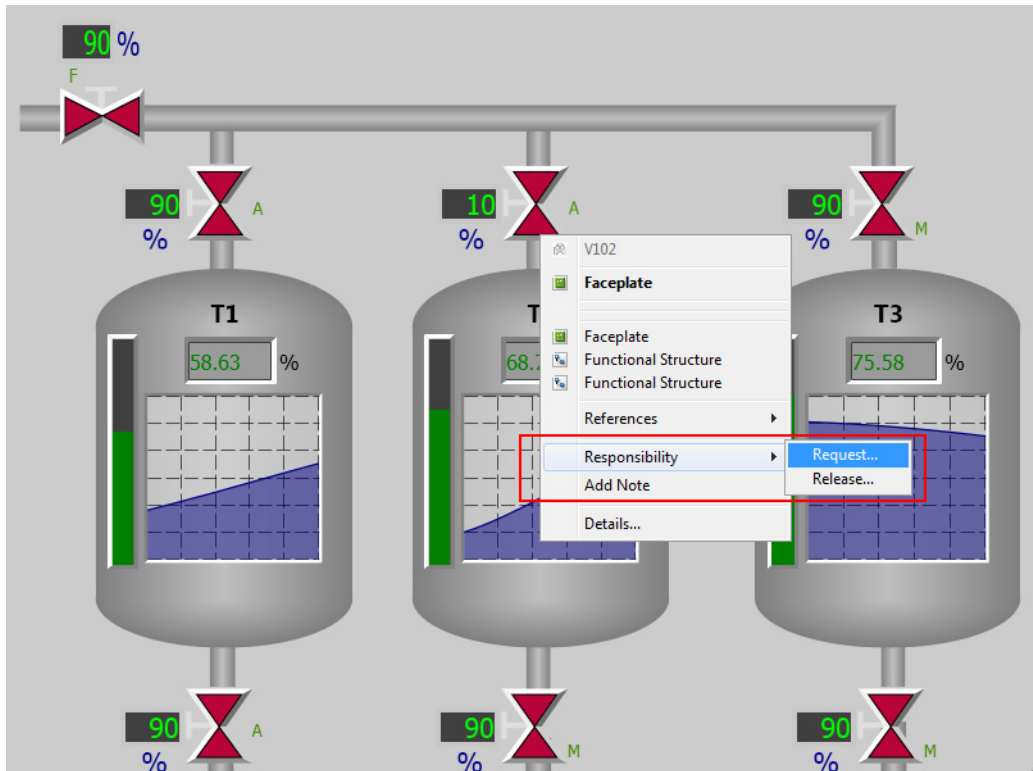

Figure 26. Request Responsibility using Object Context Menu
2. Right-click the object and select **Responsibility > Request...** from the context menu, refer to Figure 26.